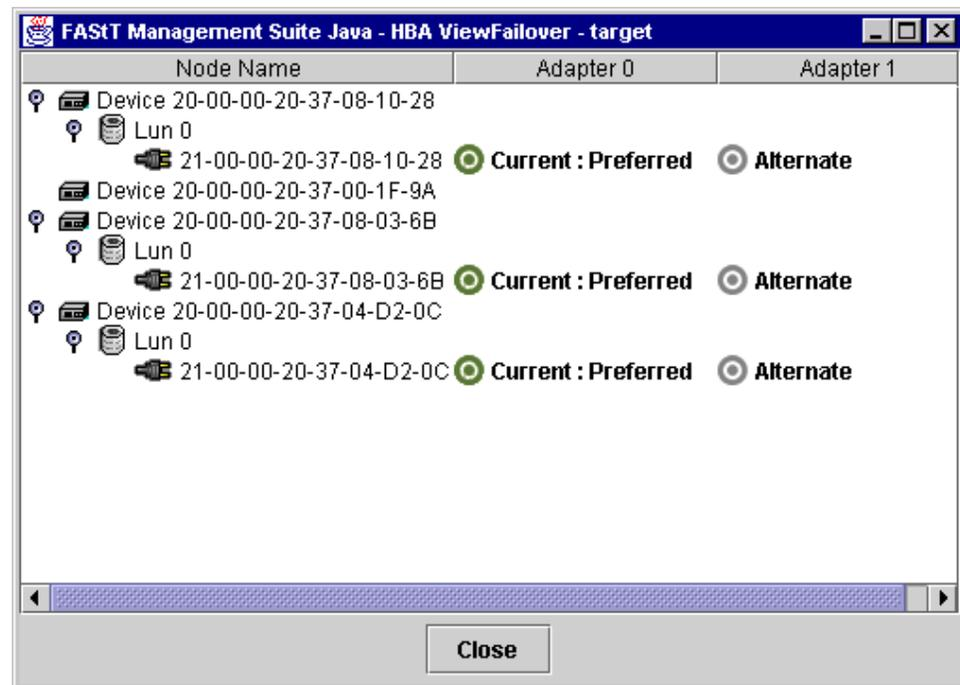

Figure 95. HBA View Failover Window
- Right-click the host in the HBA tree. From the pop-up menu, click **Current Path**. The HBA ViewFailover window is displayed (see Figure 95).